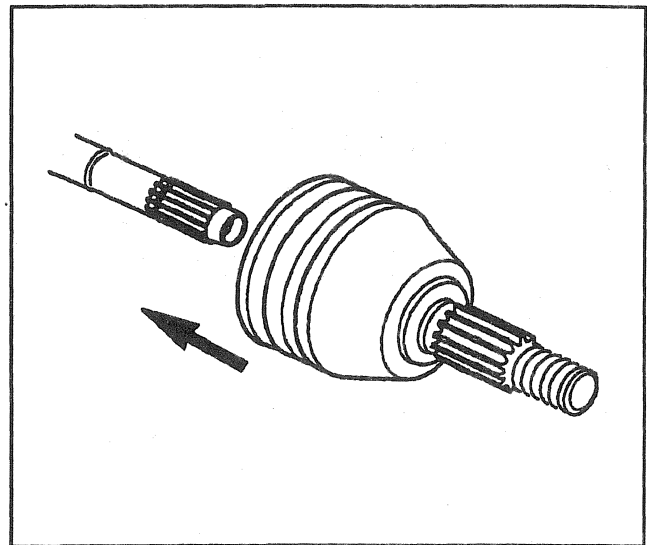

Figure 55—Installing C/V Joint
Install or Connect (Figures 55 through 58)
- B. Push C/V joint onto axle shaft until retaining ring is seated in groove on axle shaft (Figure 55).